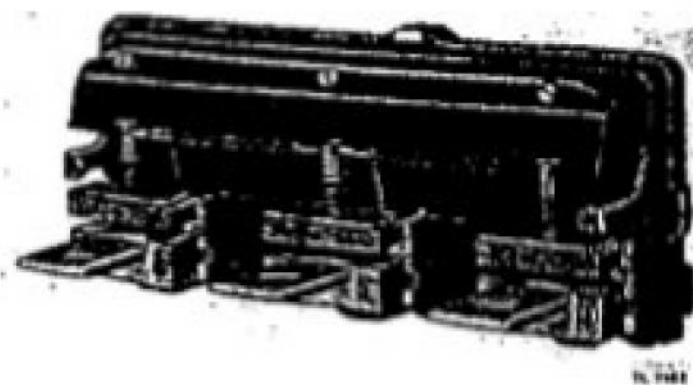

Figure 24. Arc spinner arrangement used on 250-volt a-c circuit breaker.
(5) Figure 24 shows the details of the 250-volt a-c arc quencher, used in the 225-ampere frame. The V-shaped conductor shown at the extreme left is insulated and arranged so that the power, flowing through the arc from the stationary arcing tip, must also pass up, around, and down through the center of the plates, through the stud, and out to the line.
(6) The magnetic field set up in the chamber draws the arc into the center where it rotates at high speed; the single arc is broken up by the plates into a series of short arcs. When the current passes through zero, the arc does not reestablish.
f. FIELD RHEOSTAT. (1) *Construction.* (a) The exciter field rheostat is a type WL unit. In the manufacture of these rheostats, a pressed-steel plate forms a light but durable rigid base. After the entire surface is sandblasted to remove foreign particles,